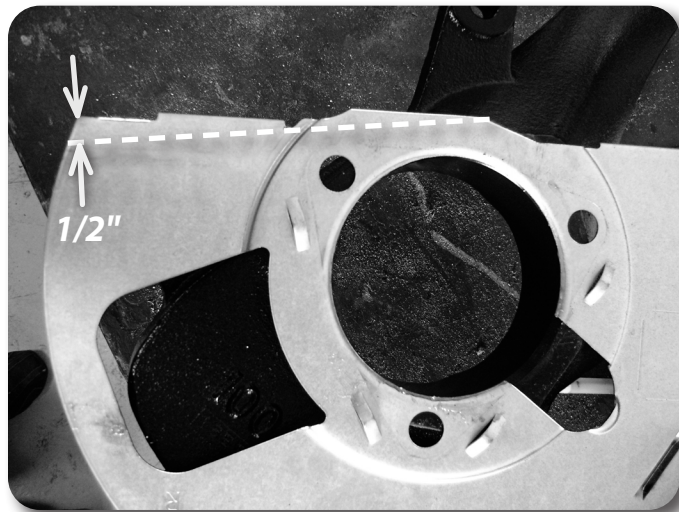

Figure 31
61. The brake dust shield needs to be trimmed. Measure in from the lower vertical edge (opposite the ABS sensor location) 1/2" and make a straight line to the edge shown in Figure 31. Cut the section off of the brake dust shield.